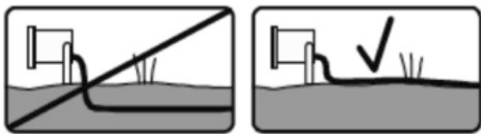

Fig.2
- The pre-installed cable supplied is for above-ground use only. Cables that are to be routed within walls or below ground must be protected by means of suitable conduit or trunking, (see Fig. 2)